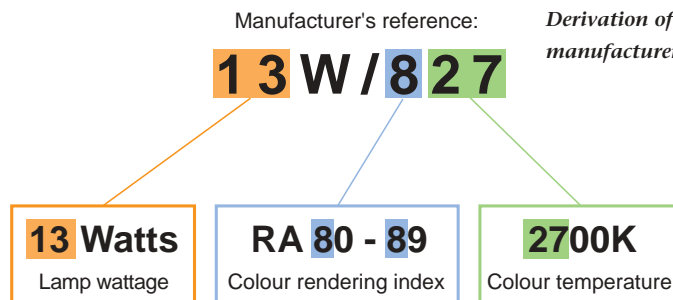

Figure 4
Manufacturers generally state the colour rendering and temperature of a lamp using three-digit **colour reference number** eg 827. The first number (8) indicates the initial number of the colour rendering index and the second two numbers (27) indicate the initial numbers of the colour temperature (figure 4). The colour reference number is often preceded by the lamp wattage in manufacturers' literature.